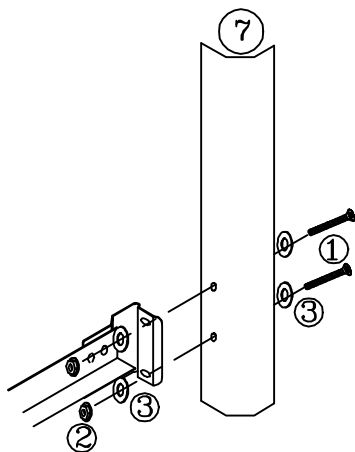

FIGURE 4
- Position footboard panel and align holes in the post (7) with holes in the frame bracket. See Figure 4
- Insert 2 screws (1) with washers (3) through holes located in post (7) into frame bracket holes. (See Figure 4)
- Place a washer (3) first and then a nut (2) on each screw. Hand-tighten, DO NOT TIGHTEN screws all the way.